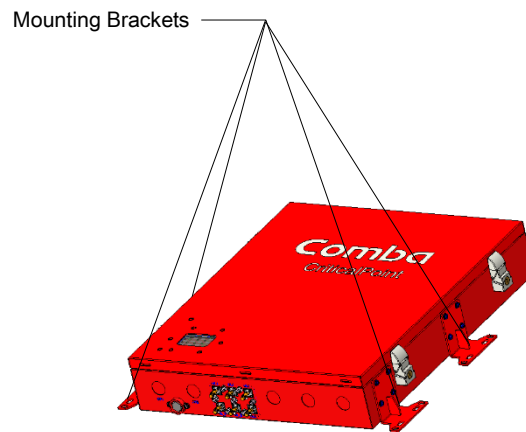

Figure 58: V2 FOU Installing and Adjusting Mounting Brackets
- Remove the two mounting brackets that come attached to the V2 FOU from the factory, adjust the direction according to Figure 58, and install the remaining 2 mounting brackets from the accessories kit.